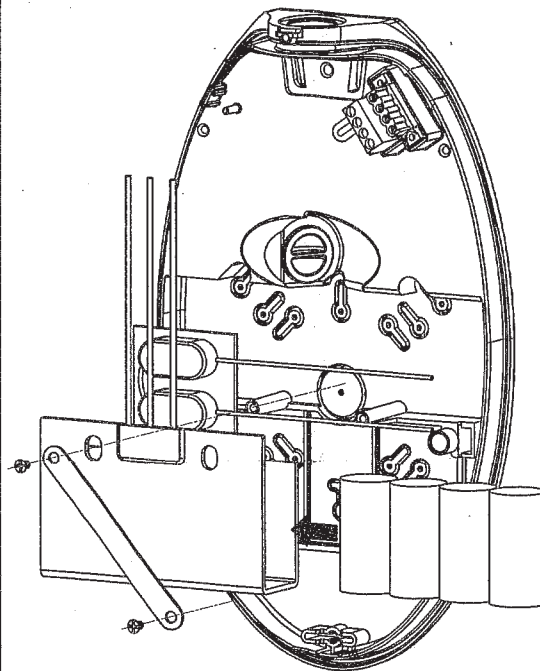

Figure 2
- Figure 2: Installation battery to heater pad